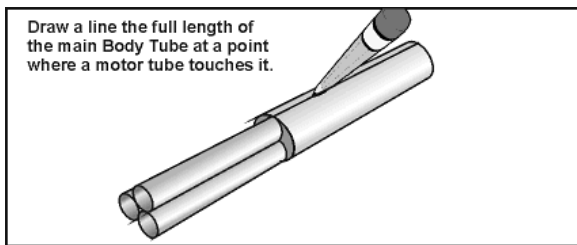

Figure 7
- Referring to **Figure 7**, draw a straight line the full length of the Main Body Tube. Locate this line such that it is centered where one of the Engine Tubes touches the Main Body Tube.